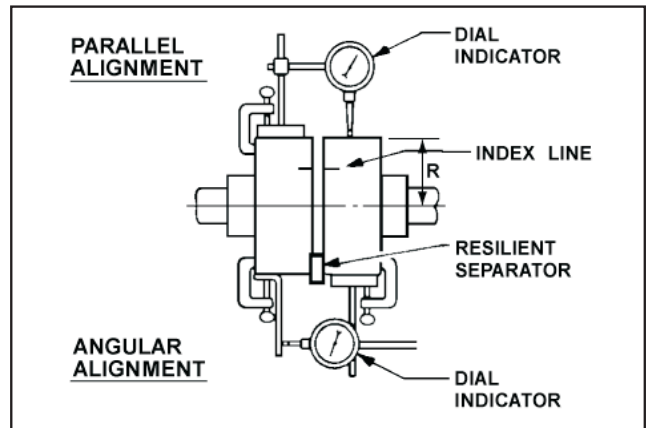

Figure 8: Checking Alignment (Method 2)
See Figure 8.
3. Scribe index lines on coupling halves as shown in Figure 8.
9. For single element couplings, a satisfactory parallel misalignment is .004" T.I.R., while a satisfactory angular misalignment is .004" T.I.R. per inch of radius R. See Figure 8.